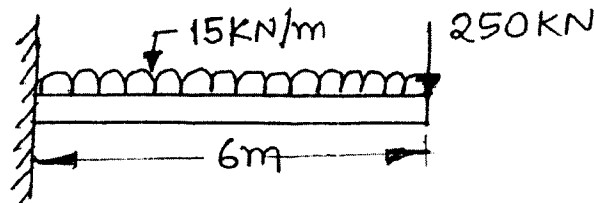

Fig.Q5(b)
b. For the beam and loading as shown in Fig.Q5(b), determine deflection, slope and support reaction. Take $E = 110\text{GPa}$, $I = 5 \times 10^{-4}\text{m}^4$. (08 Marks)